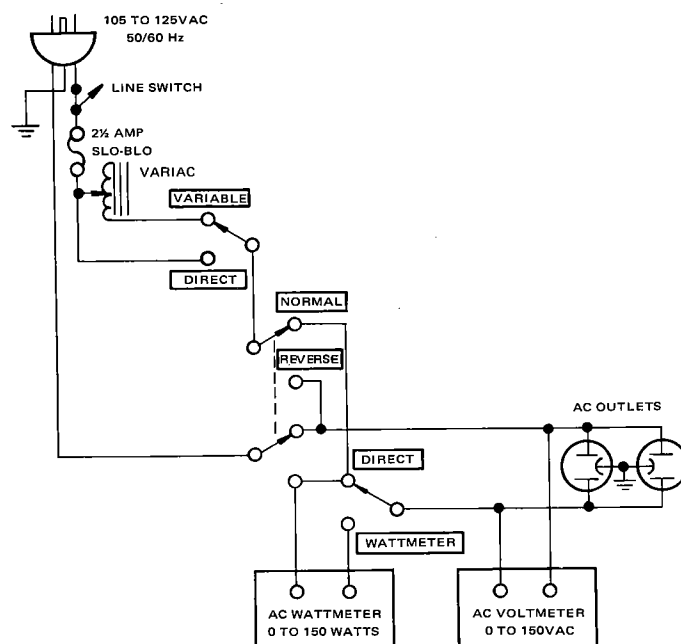

Figure 1. AC Power Control Box Simplified Schematic
Table 1 lists the test equipment required for servicing the Model 1070 Stereo Console Amplifier. The wattmeter, ac voltmeter, and variable autotransformer may be assembled as a test fixture as shown schematically in Figure 1. The load resistors and ac ammeter may be assembled into a second test fixture as shown in Figure 2.
| AC Power Control Box                             | Optional Item. Fabricate in accordance with Figure 1.                                    | Monitors and controls primary power for amplifier.   |
1. Make the test setup shown in Figure 1 with the instrument controls set in the following positions: